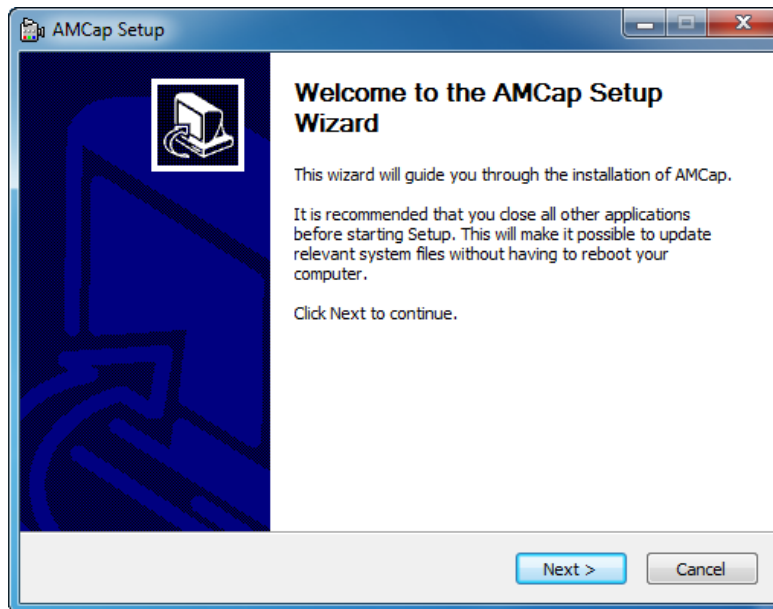

Figure 5-47: AMCap Driver Welcome Screen
- Step 4:** The **Welcome Screen** in **Figure 5-47** appears.